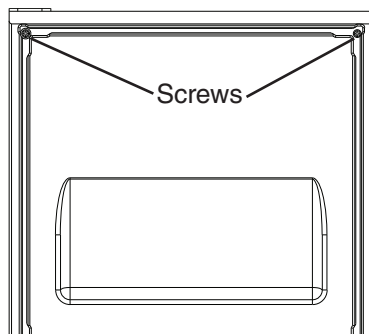

Fig. 18
- 9) Temporarily fasten the overlay panel to the door using 2 of the M4x25 pan head screws provided. See Fig. 18.